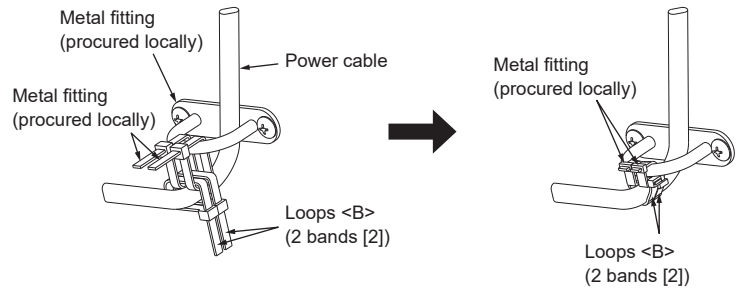

Fig. 4-8
- (1) Route the power supply cable through the metal fitting. (Fig. 4-8)
- (2) Make 2 bands [2] form loops <A> through the metal fitting.
- (3) Make 2 bands [2] form loops through the cable and loops <A>.
- (4) Tighten the loops <A>
- (5) Tighten the loops